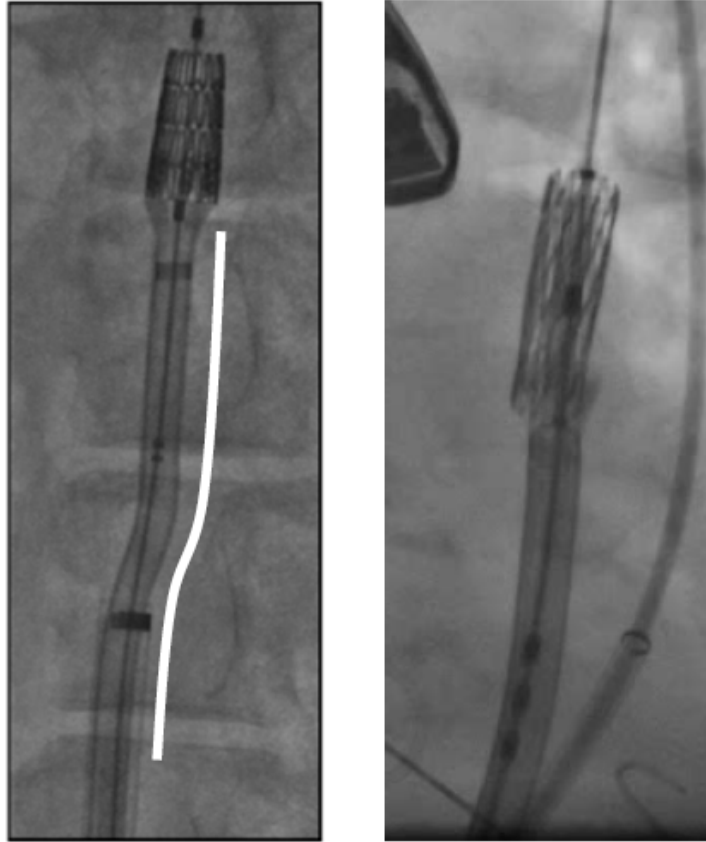

Figure 1: Delivery system flex shaft compression (Left) and valve diving (Right).
- If excessive difficulty is encountered when performing valve alignment, this may be an indication that alignment is being attempted in a non-straight section of the vasculature where alignment may not be safely achieved. In these cases, repositioning the delivery system to a different straight section of the aorta and relieving compression (or tension) in the system will be necessary (see Figure 1).
Figure 1 illustrates instances of compression/ tension in the system during the procedure: